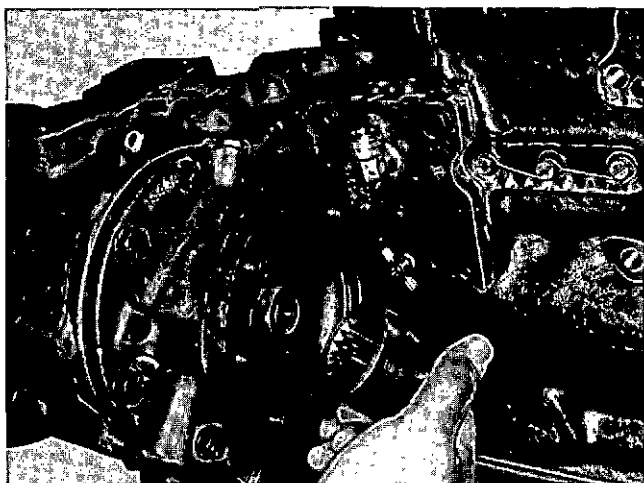

Fig. 14-1-49, V414222. Installing splined coupling
1. Assemble splined coupling to compressor drive shaft. Fig. 14-1-49.